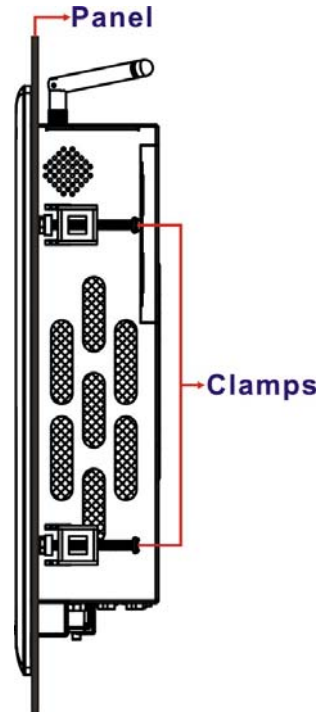

Figure 3-19: Tighten the Panel Mounting Clamp Screws
Step 5: Tighten the screws that pass through the panel mounting clamps until the plastic caps at the front of all the screws are firmly secured to the panel (**Figure 3-19**).